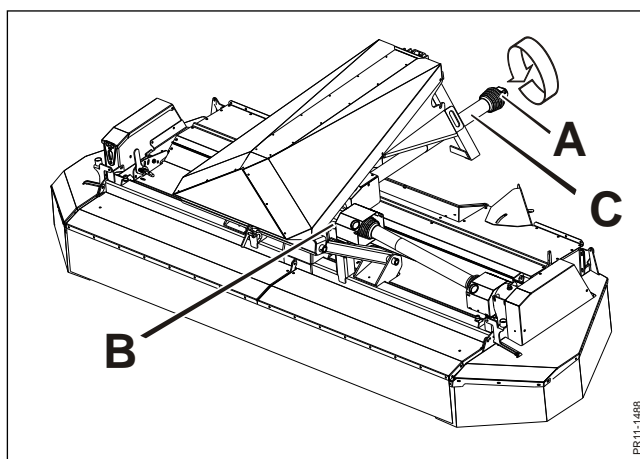

Fig. 2-1
**Fig. 2-1** The machine is constructed for a PTO speed from the tractor of **1000 rpm** and is intended for tractors on which the direction of rotation is counter clockwise **A** when looking towards the front of the tractor.
Finally, check that the number of rotations of the tractor PTO is 1000 RPM as the machine is intended for and that the direction of rotation is correct according to fig. 2-1.